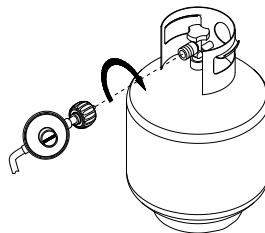

Figure 24
5. When connecting regulator and hose assembly to tank valve hand tighten quick coupling nut clockwise to a full stop (Fig.24) Do not use a wrench to tighten because it could damage the quick coupling nut and result in a hazardous condition.